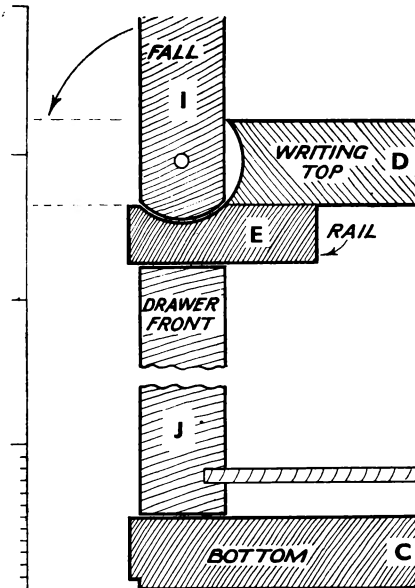
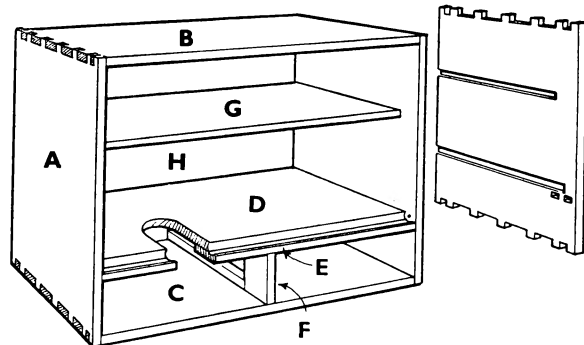

FIG. 3. ENLARGED SECTION.
FIG. 5. CONSTRUCTION OF THE CABINET.
Grooves are needed for the writing top (D) and shelf (G) as shown in Fig. 5; also mortises for the drawer rail (E). Note from the enlarged section, Fig. 3, that a hollow has to be worked to enable the fall to work. The fall is pivoted on round-head screws passed through the ends. It follows then that the hollow must be struck out from the centres of the screw holes. The best plan is to draw out this part of the job in full size and work to this. The simplest way is to work the hollows separately to the approximately correct shape, glue them together, then finish, using a glasspaper rubber.